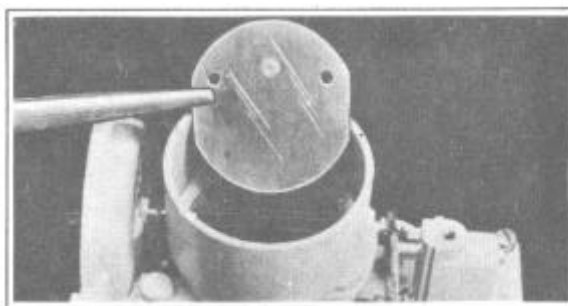

FIGURE 50
26. Install choke valve, Figure 50. Center choke valve by tapping lightly. Hold in place with finger before tightening screws.